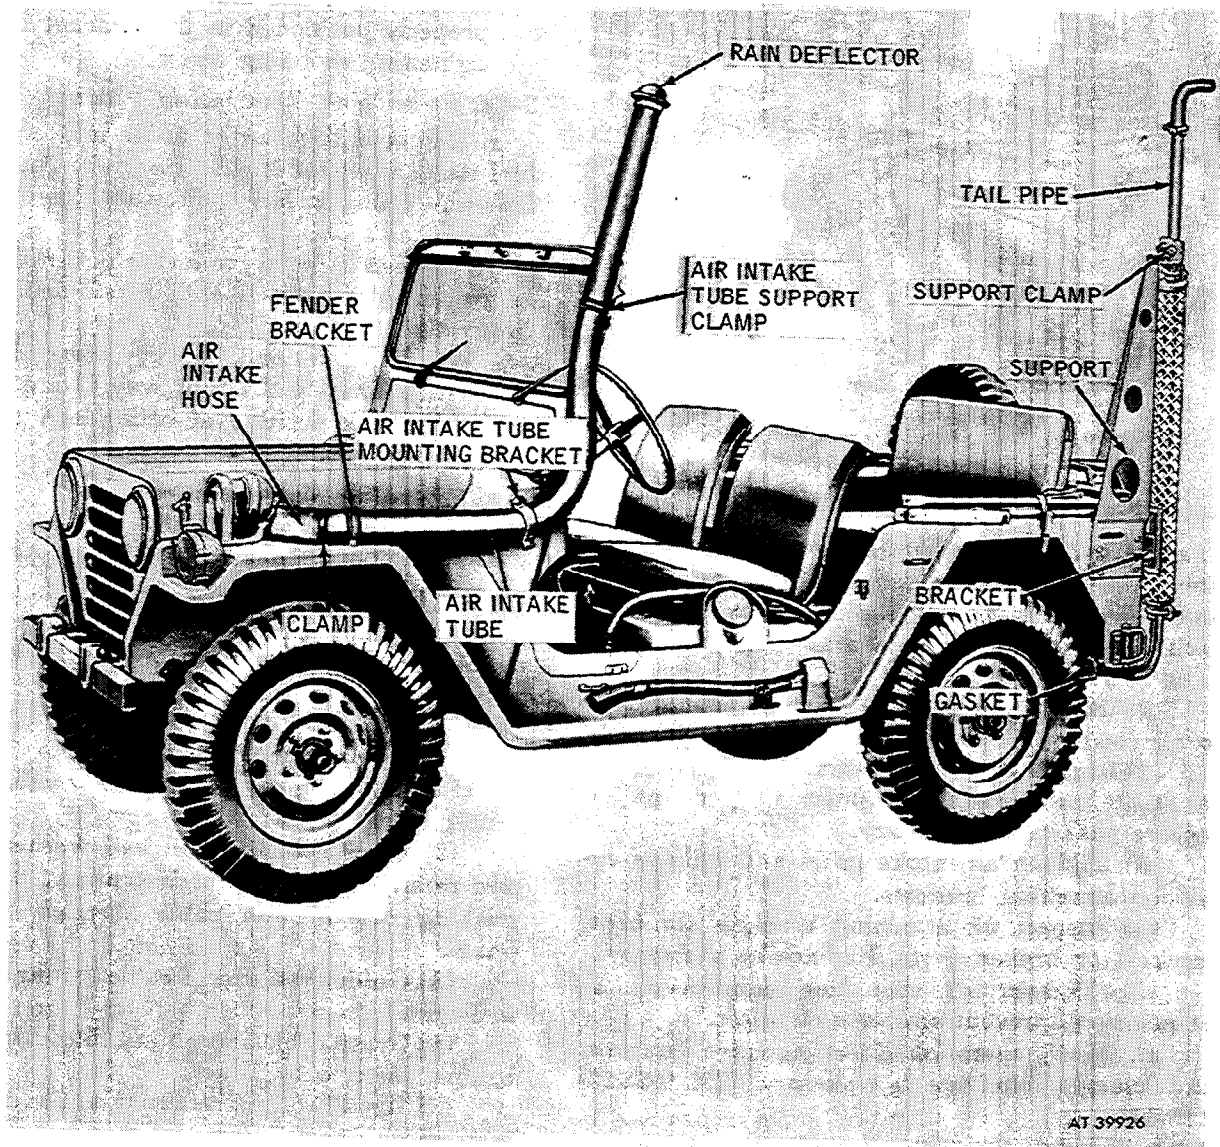
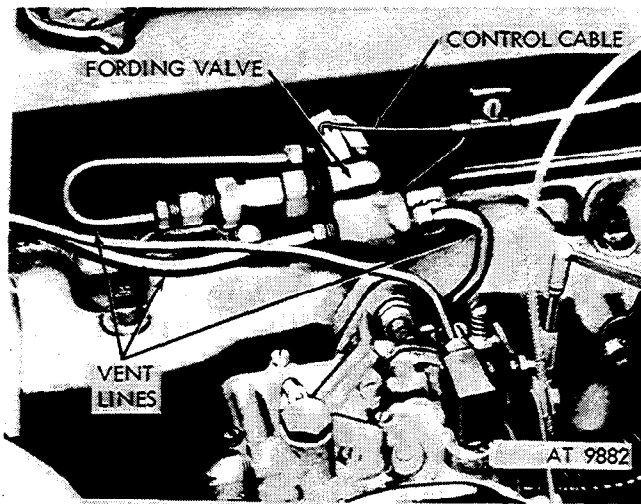

Figure 3-23. Deepwater fording kit installation.
Figure 3-24. Fording valve and cable.
The deepwater fording kit (fig. 3-23) consists of a carburetor air intake tube extension which attaches to the air cleaner and is mounted at the body left side panel. An exhaust extension tube attaches to the exhaust flanged tailpipe and is secured with a support assembly at the body left rear panels. A fording valve control (fig. 3-24) mounted on the dash panel is connected to the fording valve by means of a flexible cable. A fording valve is mounted on the intake manifold which connects various vent lines to the intake manifold. A vent tube and fitting for venting the brake master cylinder is also included. Various brackets and standard bolts and nuts necessary to install the kit to the vehicle are also included. With this kit installed, the vehicle can ford hardbottom water crossings up to 5 feet in depth.
*a. Removal.* Refer to figure 3-24.
(1) Disconnect control cable at valve operating lever by loosening retaining screw in support bracket and pulling the eyed end of the control cable off valve operating lever.
(2) Remove valve cover vent tube from ventilator valve.
(3) Unscrew ventilator valve from fording valve body.
(4) Remove carburetor vent line.
(5) Unscrew fording valve from intake manifold.
*b. Installation.* Reverse the order of (5) through (1) above.